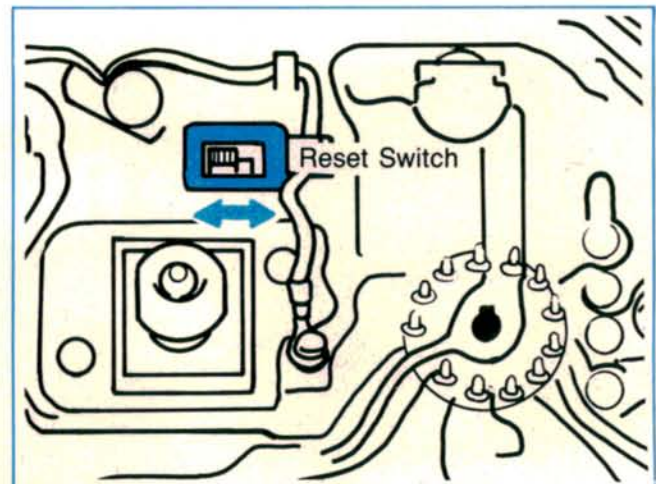

Figure 5
- 1985-86 trucks—on the rear of the combination meter (similar to Figure 5);
- 1985-88 Monteros—on the rear of the combination meter (similar to Figure 5);
- 1987-88 van/wagons—on the rear of the combination meter (Figure 5).